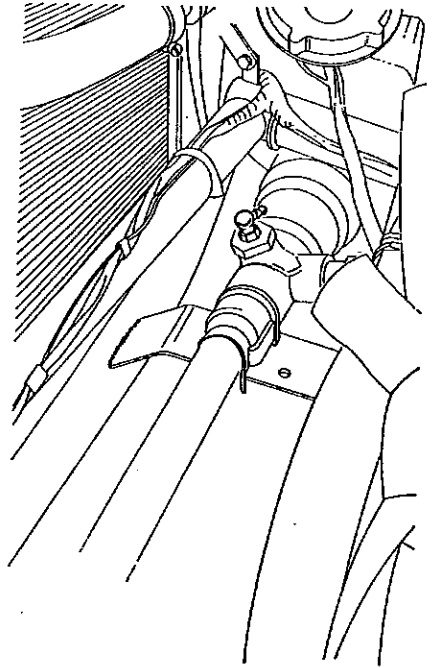

Fig. 40. Steering Unit Greasing
1. Apply a grease gun and give five strokes only to steering unit grease nipple (fig. 40).